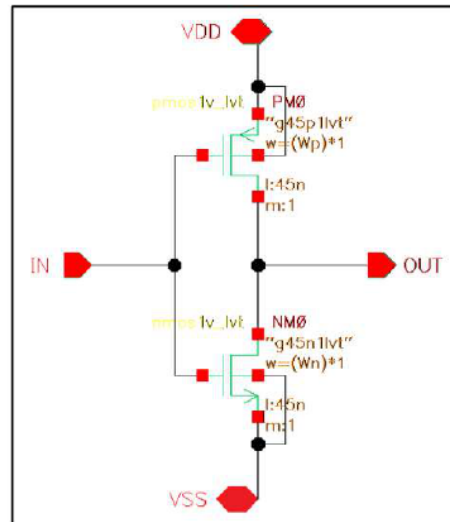
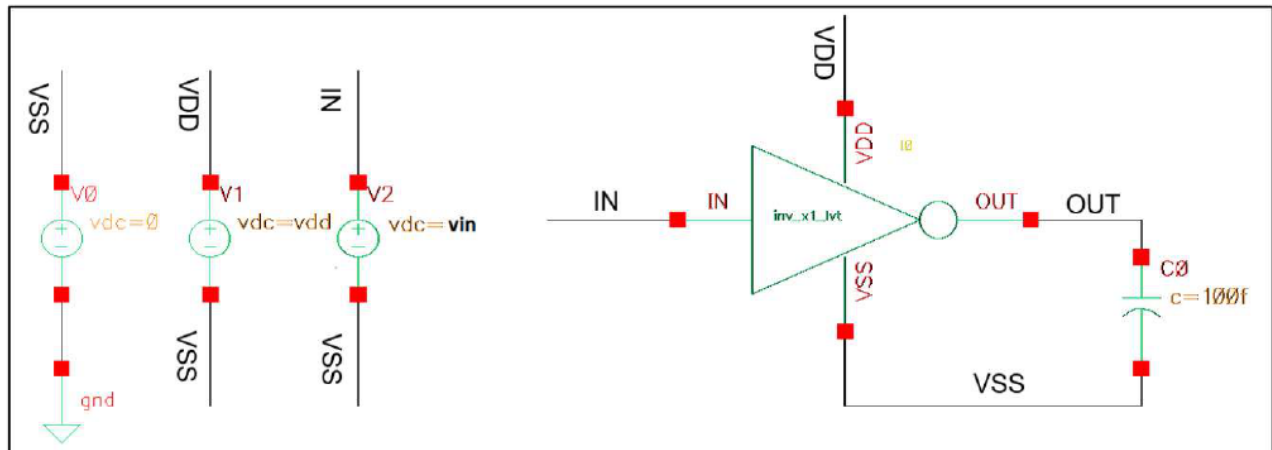

Figure 1. Schematic of INV
Figure 2. Testbench dc analysis of INV
1.3. Instruction: Assemble the circuit as shown in **Figure 1** and **Figure 2**, setting parameters for power supplies (using **vdc** source), with $L_n = L_p = 45nm$, $C_{load} = 100fF$, $v_{dd} = 1.0V$
2.3. Instruction: Assemble the circuit as shown in **Figure 2**, setting parameters for power supplies (using **vdc** source), with $L_n = L_p = 45nm$, $C_{load} = 100fF$, $vdd = 1.0V$, W_N, W_P in **Experiment 1**.